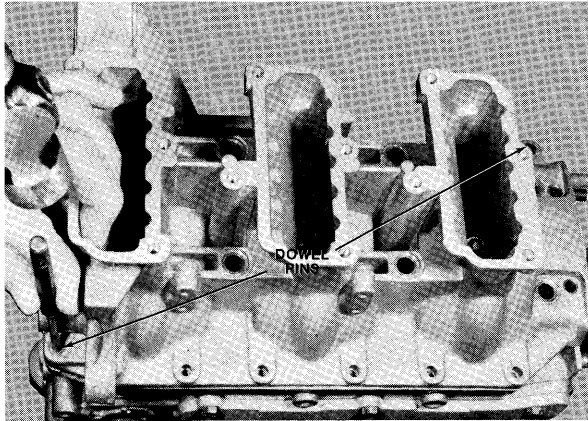

Figure 5—Driving Out Dowel Pins
- E. Drive two (2) dowel pins positioning crankcase cover on cylinder out as shown in figure 5.